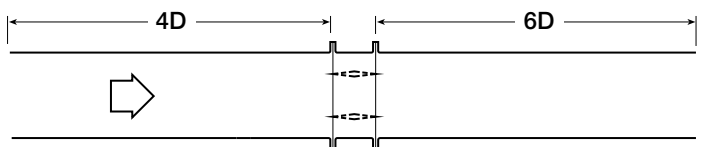

Fig. 5.3
**Figure 5.3** illustrates a fully ducted damper. This configuration has the lowest pressure drop of the two test configurations because entrance and exit losses are minimized by straight duct runs upstream and downstream of the damper.